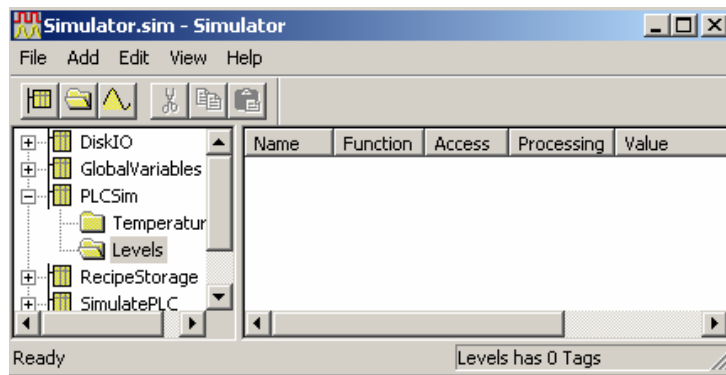

Figure 4.6. Selecting the Device for the Second Group
2. In the **Group** dialog box, give this second group the name "Levels." Click **OK**. Your screen should look similar to the one shown in **Figure 4.6**.